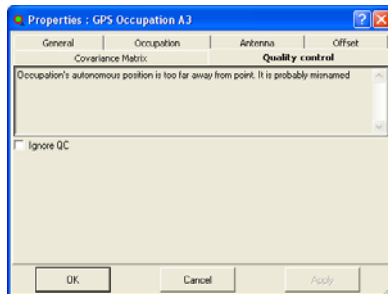

Figure 5-114. Quality Control Properties
- The *Quality Control* tab (Figure 5-114 on page 5-79). This contains informational text on selected occupations (marked in red on the views) which did not pass some of the quality control checks (Figure 5-114 on page 5-79). To turn off the feature that marks a point red when it fails some quality control tests, select the *Ignore QC* check box.